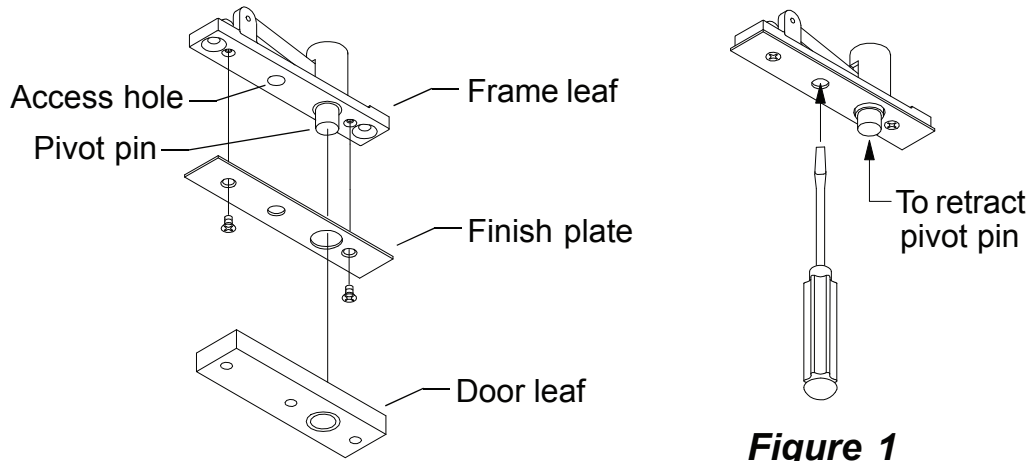

Figure 1
4. With door in open position (about 90° to jamb), carefully fit door onto bottom pivot at a slight angle. Tip door into vertical position, **aligning top pivot leafs in door and jamb.** With pivot leafs aligned, insert a screwdriver into access hole in top pivot leaf. Use screwdriver to push up lever arm, which will retract pivot pin (Figure 1). When pivot pin is retracted, position door so pivot pin will set down into bearing in door leaf, then remove screwdriver. The door should now swing freely. If it does not, double check templating dimensions.
5. To remove door from jamb: Open door to about 90° position. Insert a screwdriver into access hole in frame leaf. Use screwdriver to push up lever arm, which will retract pivot pin (Figure 1). Door can now be removed from opening.